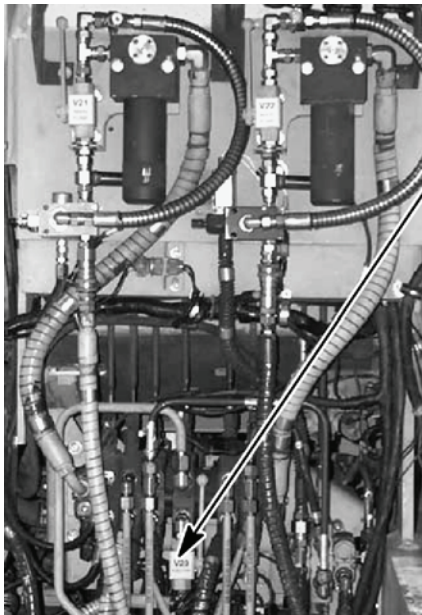
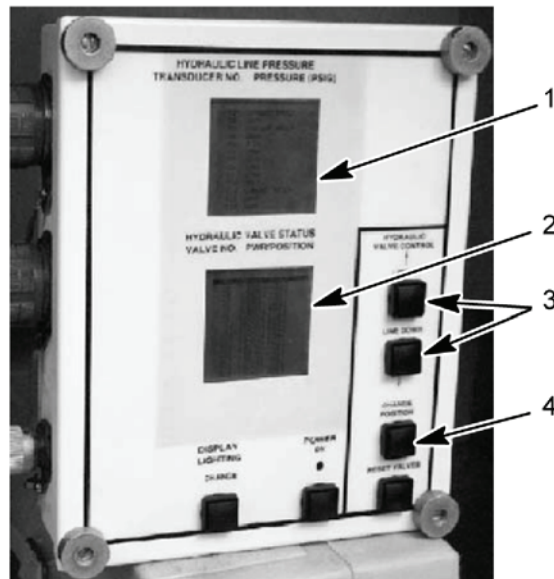

Figure 38. DCV Bank
Figure 39. HDC Control Box
- Disable ejector; manually close V23 (Figure 38, item 1) on the DCV bank.
- Using LINE UP or LINE DOWN button (Figure 39, item 3), select V1 on the HDC display (Figure 39, item 2). Close V1 on the HDC display (Figure 39, item 2) by selecting the CHANGE POSITION button (Figure 39, item 4) on the HDC control box.
- While observing transducer T-2 hydraulic pressure on the HDC display (Figure 39, item 1); turn relief valve adjustment (Figure 40, item 2) clockwise (to increase pressure) or counterclockwise (to decrease pressure) until hydraulic pressure is within limits. Tighten jam nut (Figure 40, item 1).
- Enable ejector; manually open V23 (Figure 38, item 1) on the DCV bank. Using LINE UP or LINE DOWN button (Figure 39, item 3), select V1 on the HDC display (Figure 39, item 2). Open V1 on the HDC display (Figure 39, item 2) by selecting the CHANGE POSITION button (Figure 39, item 4) on the HDC control box.